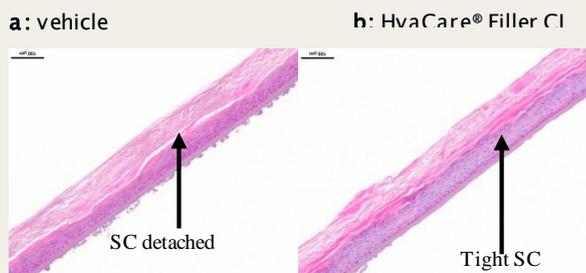

Fig. 4: Histology images of Hematoxylin and Eosin stained SkinEthic skin models after 8 h under different cultivation conditions.
The histology images (figure 4) show that drying of skin models has an effect on the structure of the whole epidermis. In a nutshell, Hematoxylin stains cell nuclei in blue whereas Eosin stains proteins in red. Image a) shows a less compact composition of the stratum corneum (SC) and a detachment of the SC from the underlying viable epidermis layer due to drying out of the skin models. In case of treatment with HyaCare® Filler CL prior to the drying step, this effect can not be seen (image b). The SC and the underlying layers of the epidermis look very tight and better structured. This goes in line with the higher cell viability compared to the vehicle